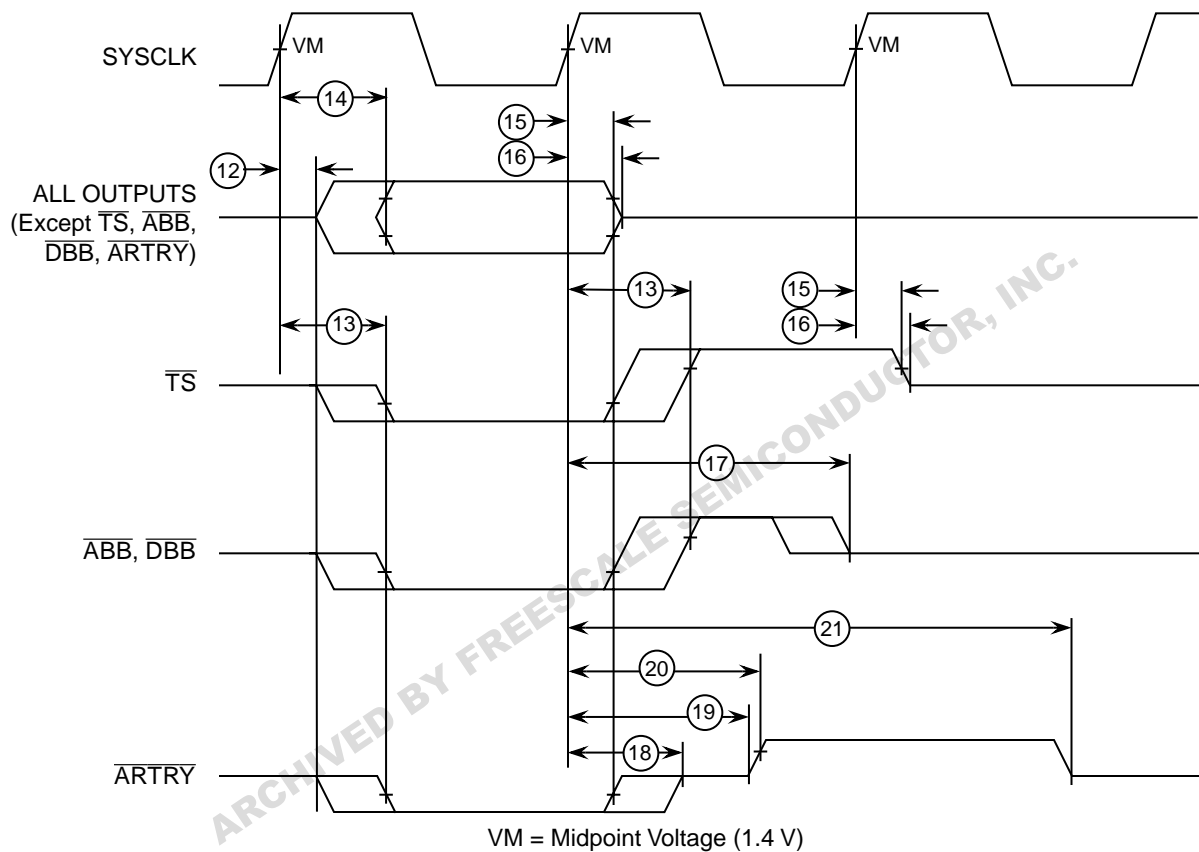

Figure 4. Output Timing Diagram
Table 8 provides the output AC timing specifications for the PID7v-603e as defined in Figure 4.
1. All output specifications are measured from the 1.4 V of the rising edge of SYSClk to the TTL level (0.8 V or 2.0 V) of the signal in question. Both input and output timings are measured at the pin (see Figure 4).
Figure 4 provides the output timing diagram for the PID7v-603e.